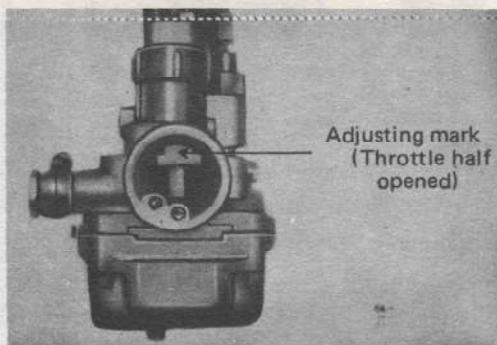

Fig. 2-4
- Make sure the V-mark on the pump adjusting pulley aligns with the guide pin when the throttle valve is half open. (Figs. 2-4 & 5)